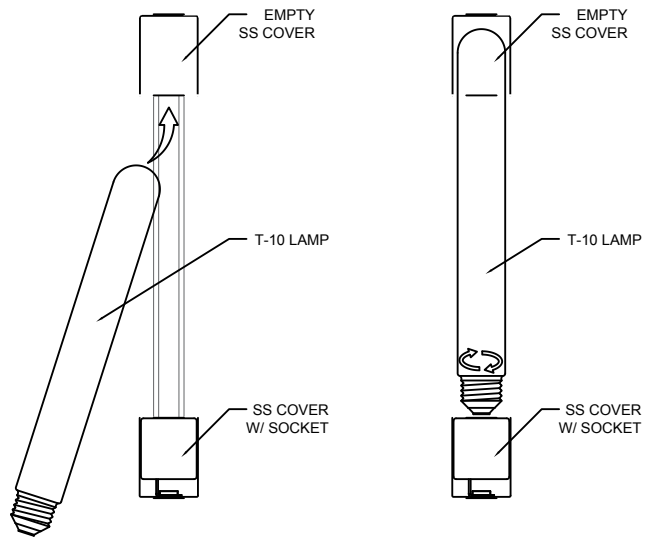

FIGURE-03
5. Install the lamps. (Type T-10 lamp) Incline the lamp and slide the tip to the empty ss cover until the position gets vertical then fasten it to the socket on the other ss cover. (See Figure-03)